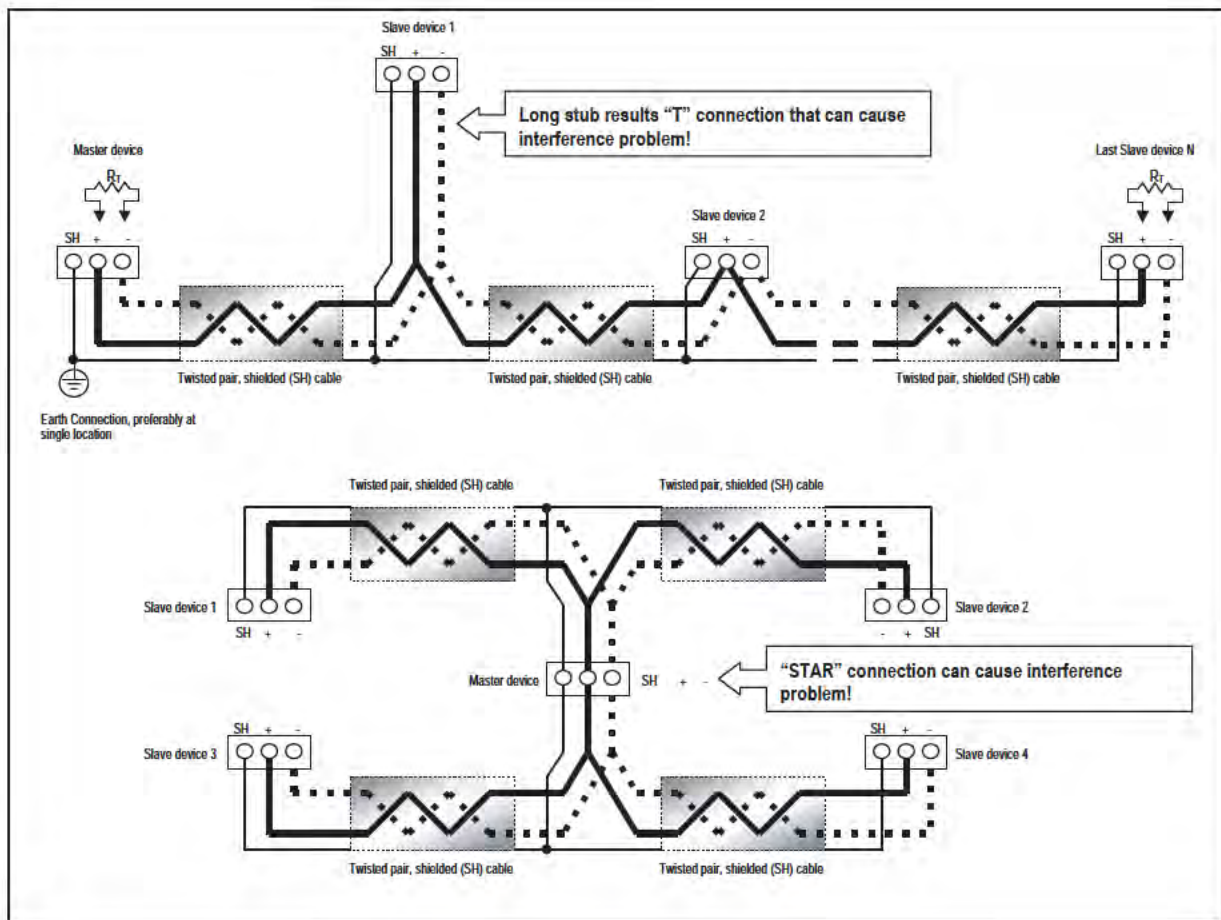

Figure 5.6: Incorrect "T" and "Star" Topologies
- Avoid both "Star" and "Tee" connections (see Figure 5.6).